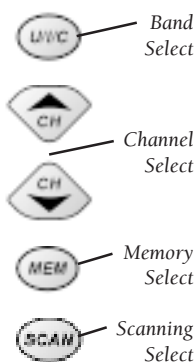

FIGURE 7
1. Before activating the scan feature you must program at least two channels into memory. You can do this by pressing the **U/I/C** key to select the desired channel band and then use the **UP/DOWN** arrow keys to select channels in that band. Press the **MEM** key to place the displayed channel in the scan memory. (Figure 7)